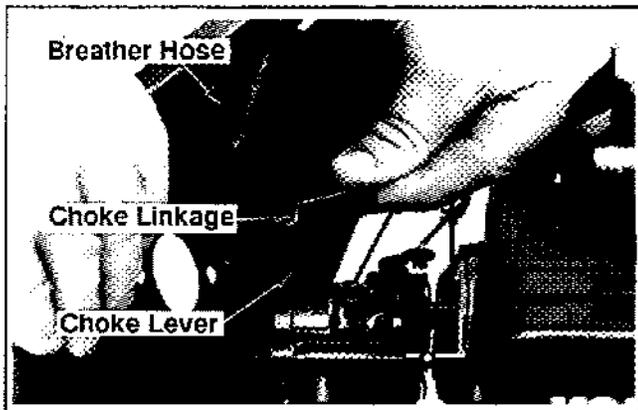

Figure 11-46. Installing Air Cleaner Base Plate.
1. Connect choke linkage to the carburetor choke lever. Install the base plate to the studs and connect the breather hose to the rocker arm cover. See Figure 11-46.